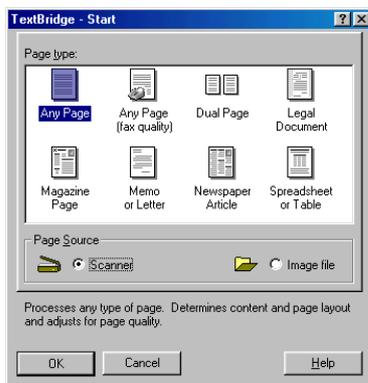

Figure 31: Selecting 'Page Source'
- Set 'Page Source' to 'Scanner' by clicking on it (see figure 31).